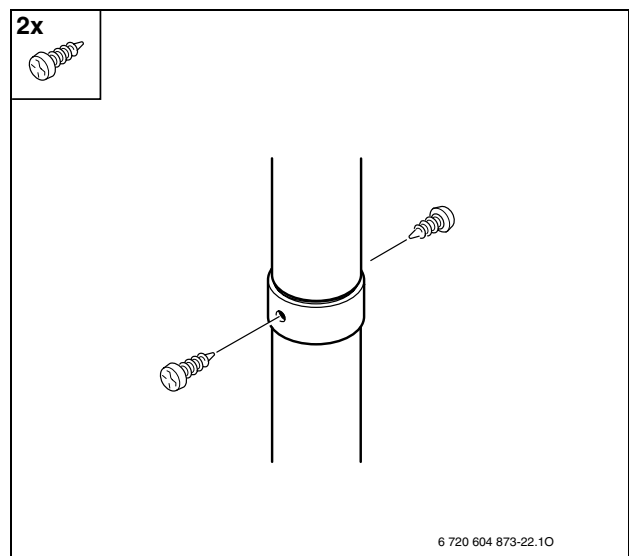

Fig. 4
- ▶ Secure joint with the screws supplied (Fig. 4).